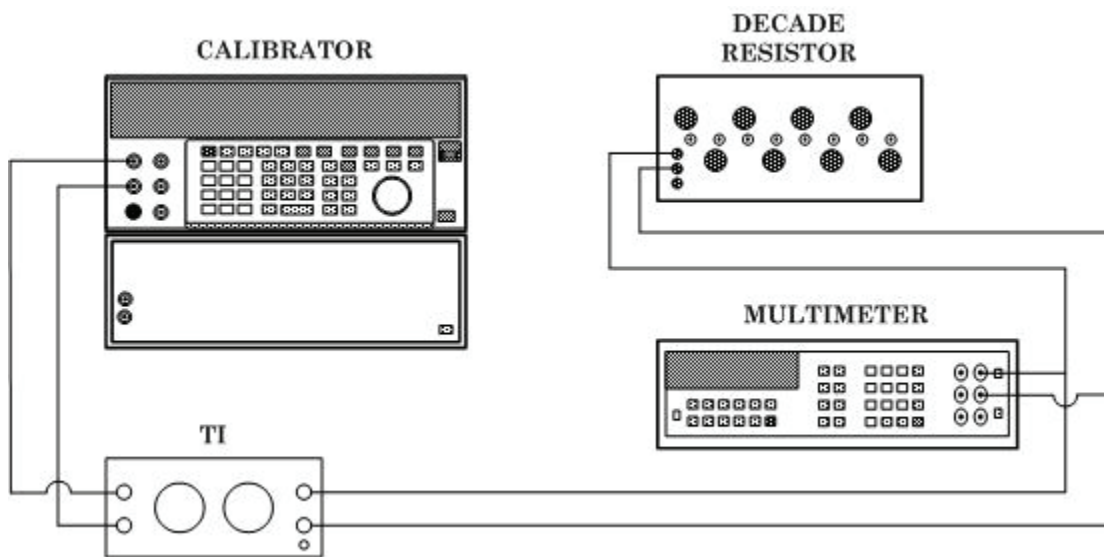

Figure 1. Attenuator range and accuracy.
b. Connect equipment as shown in figure 1.